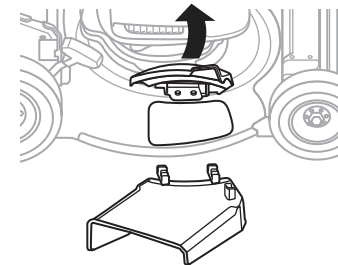

Fig. 4A
2. Open the mulch door. (Fig.4A)